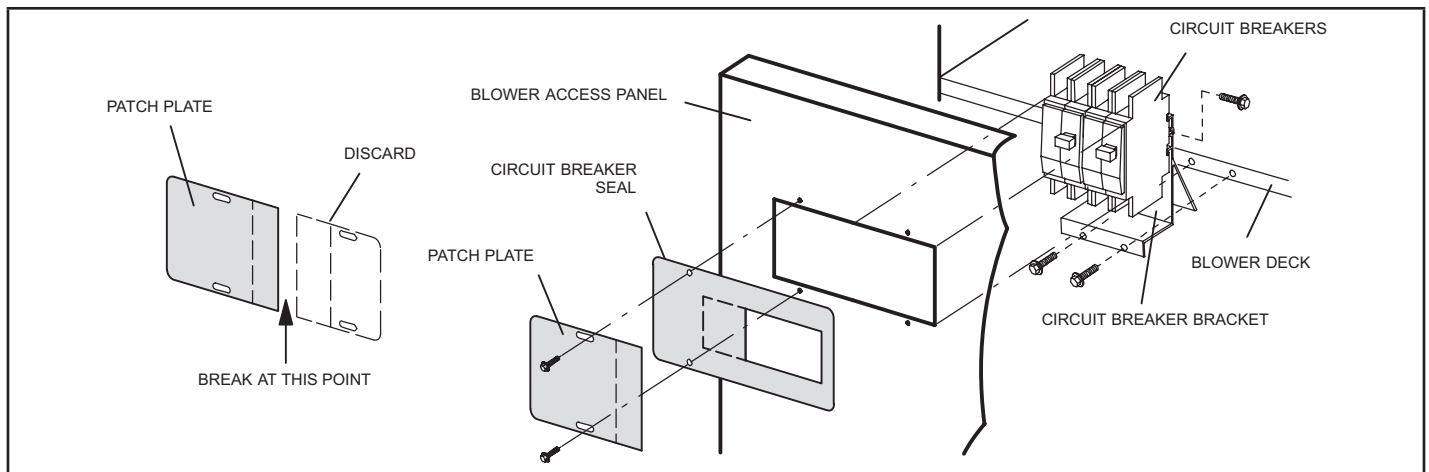

FIGURE 4. Circuit Breaker Seal and Patch Plate Installation
- 1 - Install the circuit breaker on the air handler deck flange as illustrated in figure 4. Use the provided six screws to secure the circuit breaker.
- 7 - Choose the appropriately sized adhesive-backed circuit breaker seal and remove any perforated sections (if needed). Apply the seal to the outside of the air handler access panel so that the seal is snug around the circuit breakers (see figure 4).